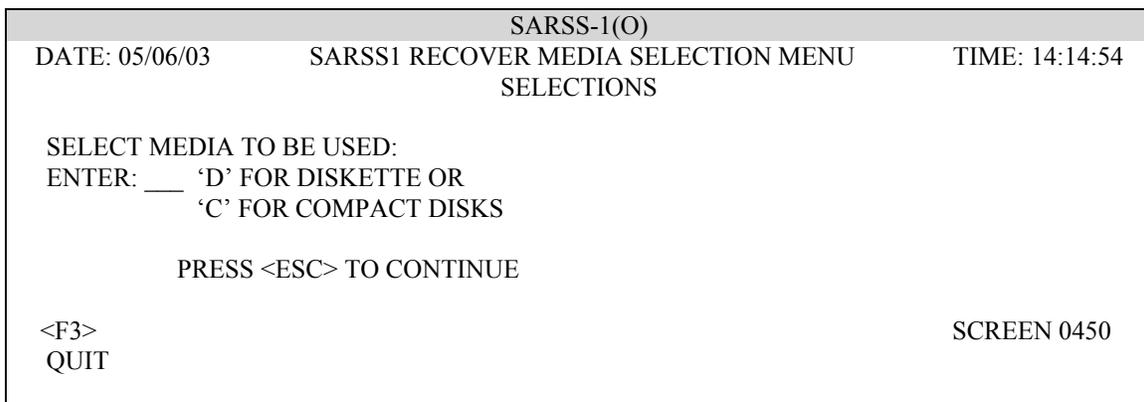

Figure 4-17 Recover Media Selection Menu
4.4 Restore Master Files (RMF) Changes. The RMF process has been changed to accommodate the replacement of the 4mm tape drive with a CD-RW drive. The valid media types to restore master files from are now diskettes and CD-ROMS. The Media Selection screen (see Figure 4-17) has been changed to use ‘C’ for compact Disks (CDs) as opposed to ‘T’ for tape streamer. There are new screens that will display the progress of the restore from the CD-ROM.
4.4.1 Restore Master Files From CD-ROM. To restore you master files from CD-ROM, enter the command “RMF” on the Action line and press <ESC>. The system will inform you that it is bringing MROCS and other background processes off line. The ‘RMF’ process screens remain the same until you get to the Media Selection Menu (Figure 4-17). Enter a ‘C’ and Press <ESC> to restore your master files from CD-ROM. The SARSS1 Recover Master Files screen # 0451 (Figure 4-18) will be displayed explaining the consequences of running the RMF process.